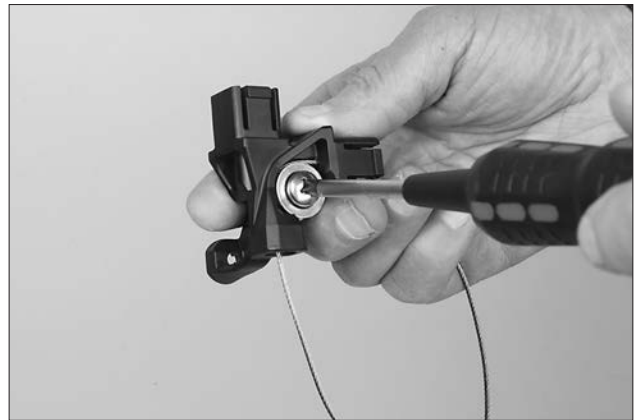

FIGURE 5-76
7. Insert the supplied bolt into the bearing and tighten securely. Take care not to strip the thread. See Figure 5-76.